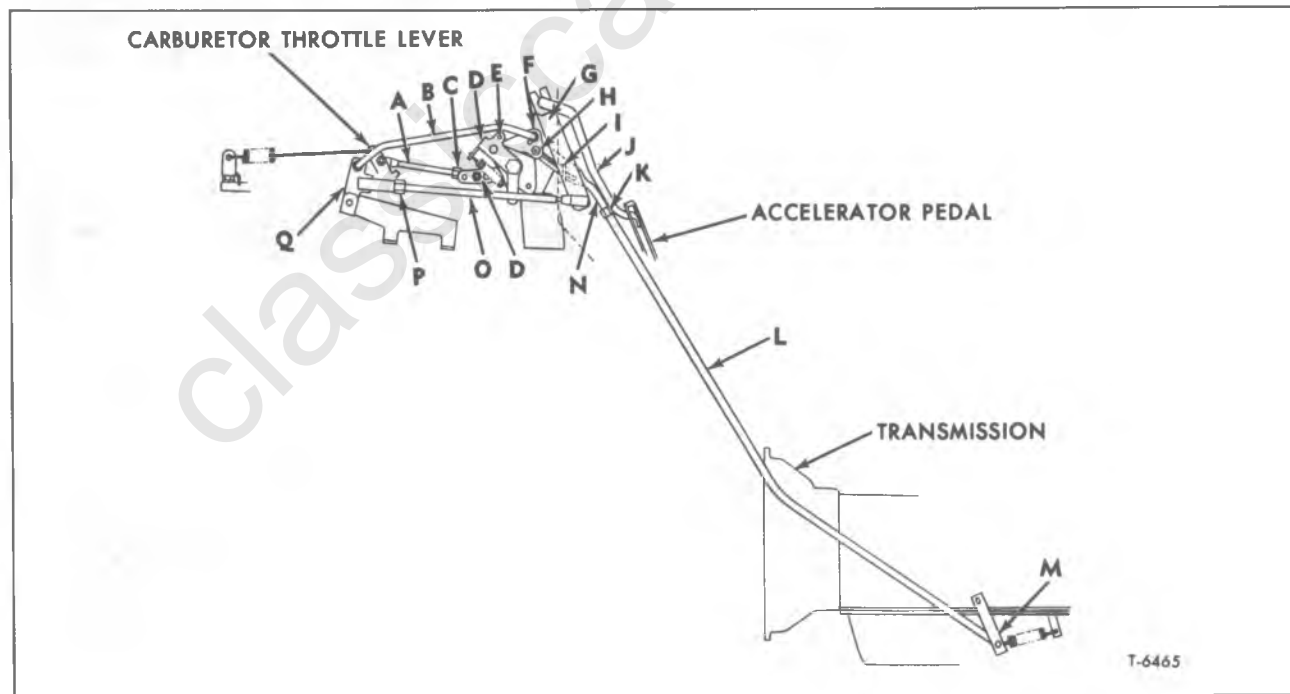
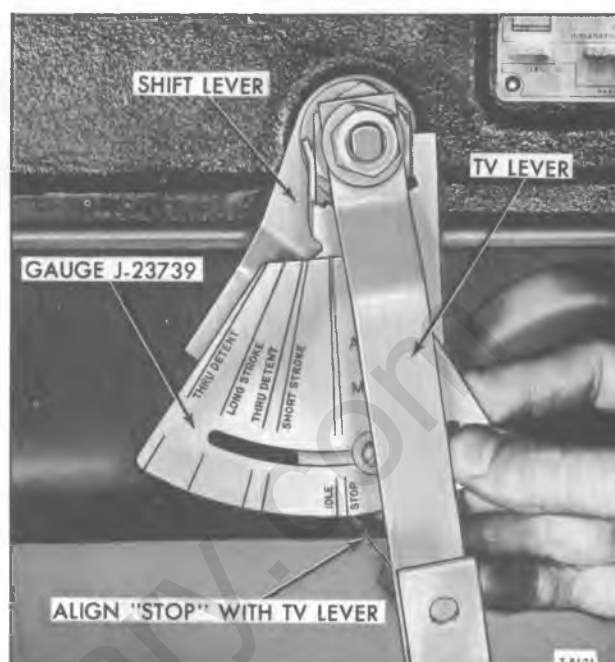
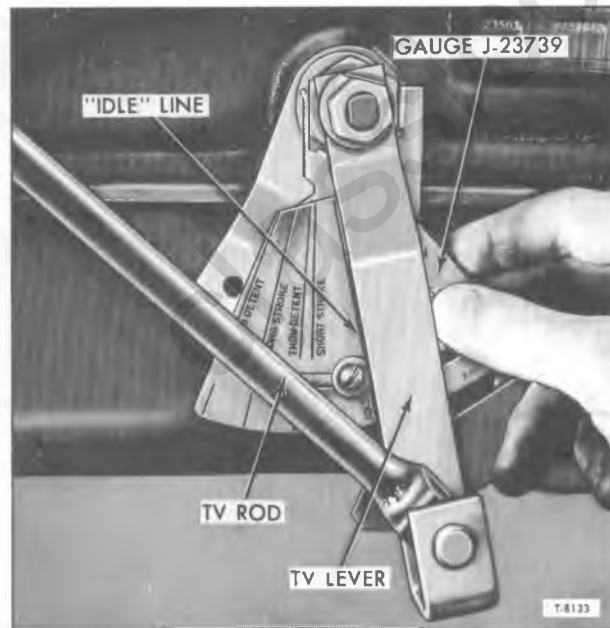
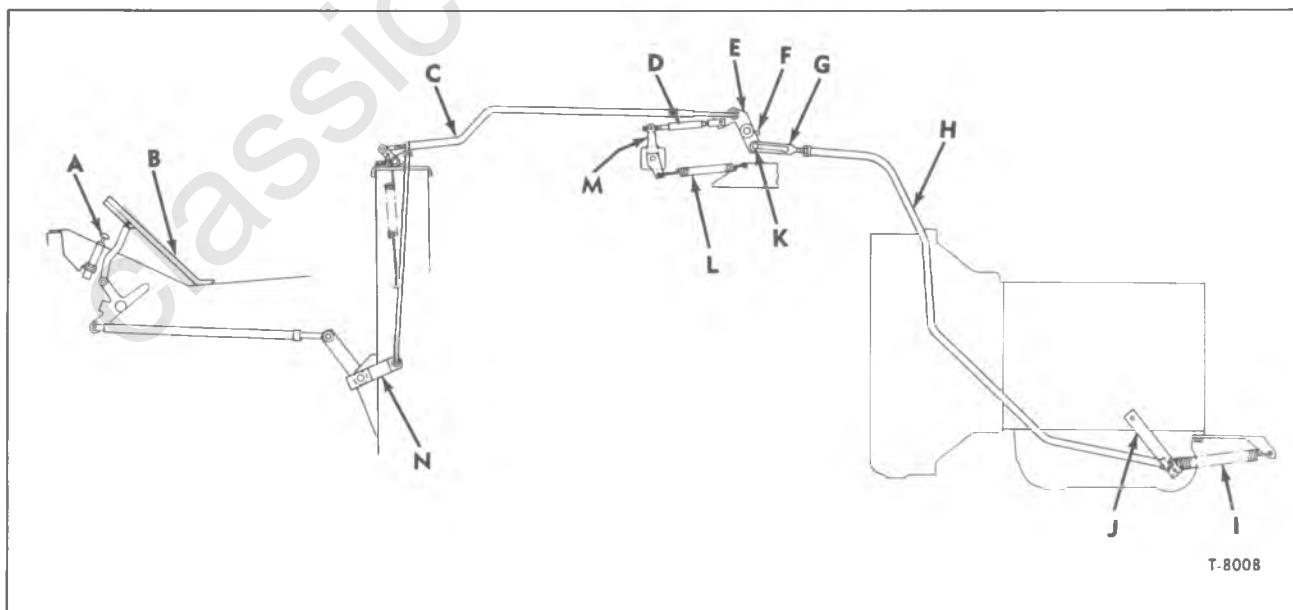

Figure 9—Accelerator and TV Linkage
Figure 10—Installing TV Linkage Adjustment Gauge
Figure 12—Position of TV Lever at Idle
Figure 14—Accelerator and TV Linkage (TG50)
3. Disconnect TV rod (L, fig. 9) from transmission TV lever. Also disconnect TV lever return spring from TV lever.
4. Referring to figure 9, perform the following:
a. Insert a $\frac{1}{4}$ -inch diameter pin through hole (E) and into alignment slot of lever (F). With carburetor throttle lever held in "IDLE" position by the throttle return spring, adjust length of rod assembly (A) to provide free-entry into lever (D). Secure length of rod (A) by tightening nut (C).
b. Remove $\frac{1}{4}$ " diameter pin from hole (E).
c. Disconnect rod assembly (O) from lever (Q).
d. Rotate lever (F) counterclockwise to downshift position (THRU-DETENT) and hold.
e. Have assistant depress accelerator pedal until pedal rod (J) contacts bumper (I).
f. Adjust length of rod assembly (O) to provide free-entry into lever (Q). Secure length of rod (O) by tightening nut (P).
5. Install gauge (J-23739) as shown in figure 10. Note that gauge is installed on manual selector nut.
8. Reconnect TV rod (L, fig. 9) to transmission TV lever (M).
9. With engine "OFF" and accelerator pedal at "IDLE" position, the forward edge of TV lever should be aligned with the "IDLE" line on gauge, as shown in figure 12. If necessary, shorten or lengthen TV rod to obtain alignment with gauge by performing the following:
a. Have assistant loosen retaining nut (K, fig. 9) holding slotted-rod (N) in position on TV rod (L).
b. Referring to figure 12, align TV lever with "IDLE" line on gauge and hold.
c. With accelerator linkage at "IDLE" position, have assistant position slotted-rod (N, fig. 9) so upper portion of slot contacts stud (H). Secure slotted-rod (N) to TV rod (L) by tightening nut (K). Recheck TV lever on transmission to be sure it is aligned with "IDLE" line on gauge (fig. 12).
12. Check TV linkage by having assistant depress accelerator pedal to pedal bumper (THRU-DETENT). Hold TV lever (M, fig. 9) in this position. When assistant releases the accelerator pedal, carburetor throttle lever and accelerator pedal must return freely to "IDLE" position. Connect TV lever return spring.
a. To raise shift point, shorten TV rod (L, fig. 9) by loosening nut (K), then reposition slotted-rod (N) as required. Tighten nut (K) against shoulder of rod (L).
b. To lower shift point, lengthen rod (L) in the same manner as preceding step.
3. Disconnect TV rod (H, fig. 14) from TV lever (J). Also disconnect TV lever return spring from TV lever.
4. Referring to figure 14, perform the following:
a. With cab tilted, position lever (E) 0.060-inch, using feeler gauge, from stop (F) and adjust swivel on link assembly (D) to provide free-entry of link assembly (D) into levers (E) and (M).
b. Adjustment of the detent button (A) is accomplished by relocating the two jam nuts (located on detent button assembly). Return cab to normal ride height. With the accelerator pedal (B) depressed to THRU-DETENT (detent button - compressed), ample clearance must exist between the pedal and cab floor to assure complete movement of the TV linkage to the THRU-DETENT position.
c. With accelerator pedal just touching detent button (A) the injection pump control lever (M) should be in the full throttle position. If adjustment is required shorten or lengthen rod (C) as necessary. Note link assembly (D) must not be extended when performing this step.
5. Install gauge (J-23739) as shown in figure 10. Note gauge is installed on manual selector nut.
8. Reconnect TV rod (H, fig. 14) to transmission TV lever (J).
- a. With cab tilted, have assistant loosen retaining nut holding slotted-rod (G) in position on TV rod (H).
- b. Referring to figure 12, align TV lever with "IDLE" line on gauge and hold.
have assistant position slotted-rod (G, fig. 14) so upper portion of slot contacts stud (K). Secure slotted-rod (G) to TV rod (H) by tightening retaining nut. Recheck TV lever on transmission to be sure it is aligned with "IDLE" line on gauge (fig. 12).
12. Check TV linkage by having assistant depress accelerator pedal until detent button (A, fig. 14) is compressed (THRU-DETENT position). Hold TV lever (J) in this position. When assistant releases accelerator pedal, injection pump control lever (M) and accelerator pedal must return freely
a. To raise shift point, shorten TV rod (H, fig. 14) by loosening retaining nut holding slotted-rod (G) to TV rod (H). Reposition slotted-rod as required. Tighten retaining nut against shoulder for rod (H).
b. To lower shift point, lengthen rod (H) in the same manner as preceding step.